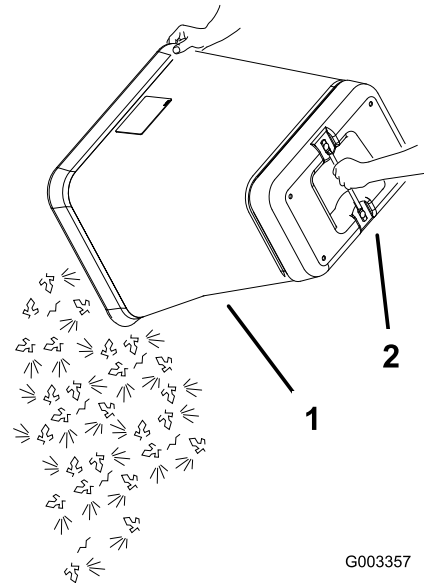

Figure 33
5. Grab the handle on the bottom of the bag and tip it over to empty the bag (Figure 33).